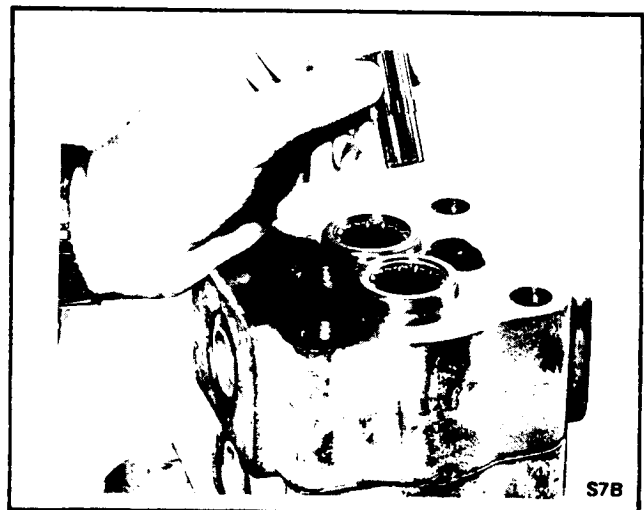

Fig. 8 - Removing Connecting Shaft
6. Remove the connecting shaft.\* See Fig. 8.